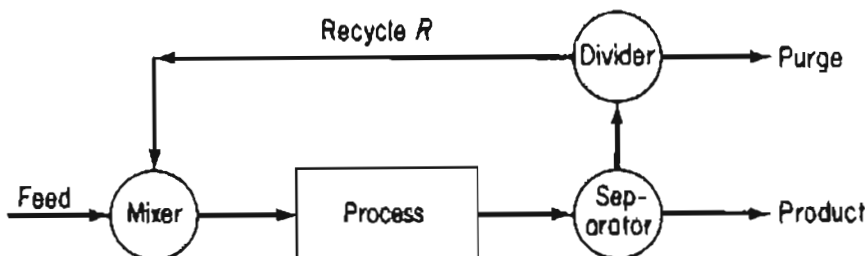

Figure 12.11 A process with a recycle stream with purge.
- b. A **purge** stream—a stream bled off from the process to remove an accumulation of inerts or unwanted material that might otherwise build up in the recycle stream (Figure 12.11).